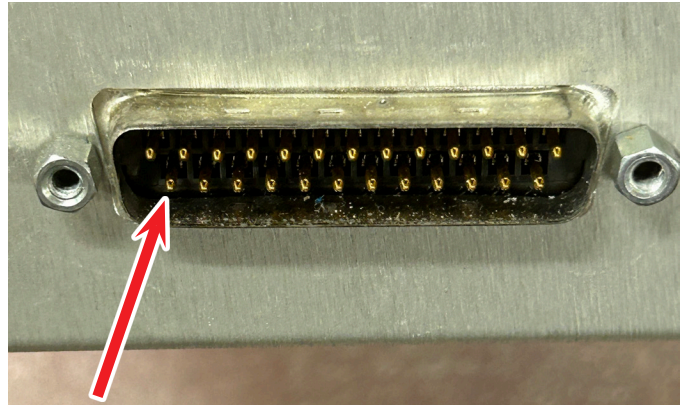

FIGURE 4— Look closely at the pins in the male connector for any damaged pins.
6. Another cause of stepper motor malfunction is if one or more of the pins in the male 25 DP connector (parallel port connector) get bent or broken and do not make complete contact with the pinhole in the female connector. Check the pins inside the male connector to see if any of them have been bent and are not going into the female connector correctly (see Figure 4).